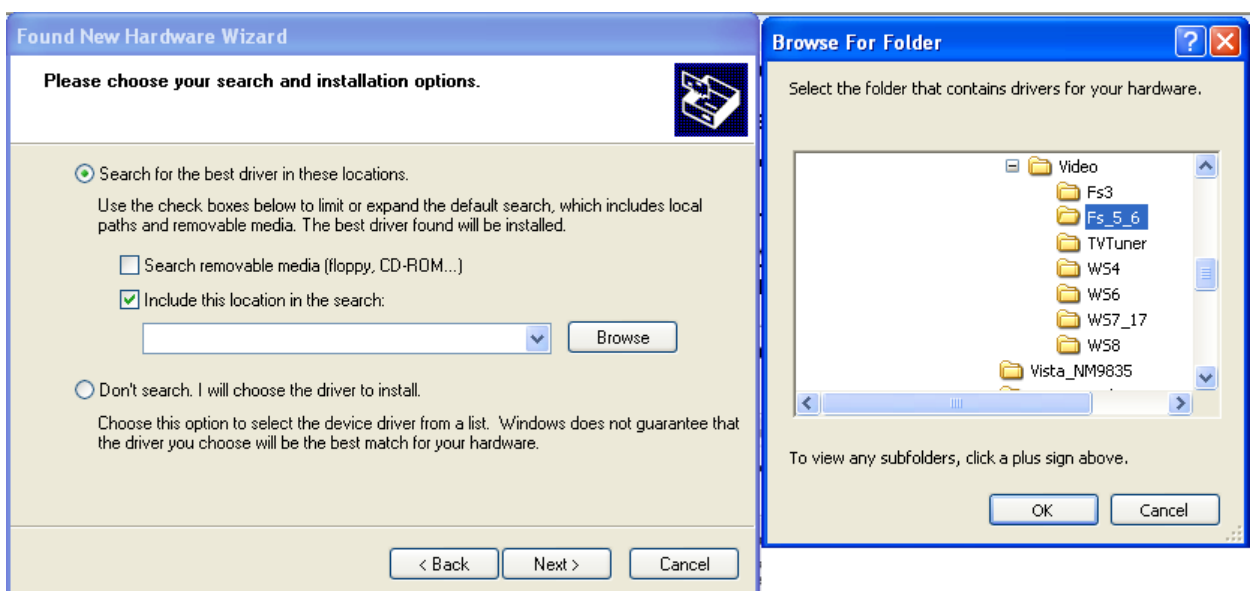

Figure 2.1-10 Example of selecting a folder that contains drivers for the hardware
4. Set the **Include this location in the search** checkbox in the search options dialog box and click **Browse**. In the **Browse for folders** specify the path to the folder that contains drivers for a video capture card and click **OK** (Figure 2.1-10).